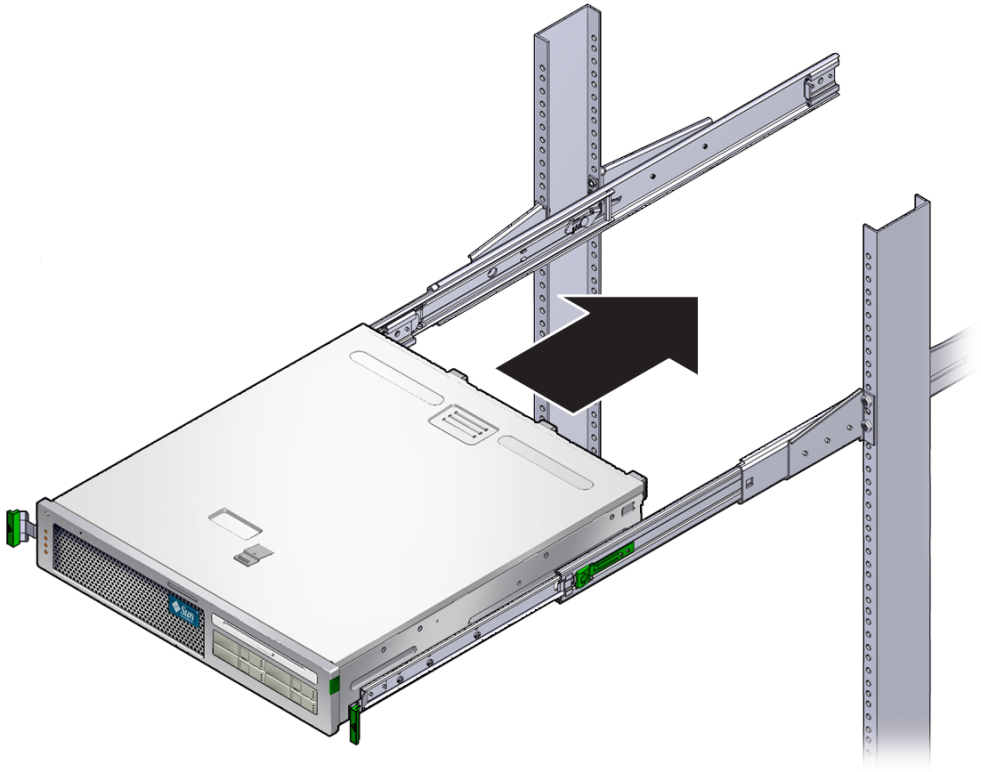

FIGURE 3-19 Sliding the Server Into the Rack
8. Push in the slide buttons and slide the server all the way into the rack enclosure (FIGURE 3-19).